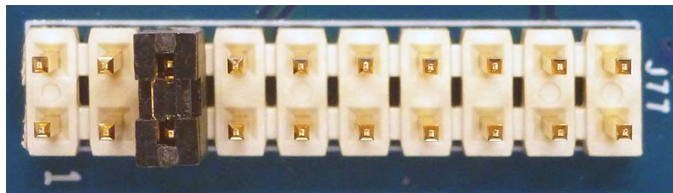

Figure 51.
- (8) PWM\_TRI is already connected to VCC on the ISL78224EVAL2Z.
- (9) Jumper J70 Pin 2 to J70 Pin 3 (PGND) to command buck operation.
- (10) Jumper J88 Pin 2 to J88 Pin 1 (VCC) to command continuous conduction mode (CCM) or J88 Pin 2 to J88 Pin 3 (GND) to command diode emulation mode (DE).
- (11) Jumper J89 Pin 2 to J89 Pin 1 (VCC) to command Latch off Fault protection (LAT) or J89 Pin 2 to J89 Pin 3 (GND) to command hiccup fault protection (HIC).
- (12) Remove jumper J4 to disconnect VIN\_FLY from VIN.
- (13) Connect V6 (TP19) to a disabled external 6V source.
- (14) Connect VIN (TP14) and V12 (TP18) to a disabled external 12V source.
- (15) Enable the BAT48, BAT\_IN, V6, VIN, and V12 voltage sources.
- (16) Jumper J58 to command enable.
- (17) Enable can be verified by observing the presence of voltages at PVCC, VCC, MCUVDD, and CLK\_OUT.
- (18) Jumper J77 Pin 5 to J77 Pin 6 to command PWM\_EN, see Figure 51. Avoid bounce to this connection.